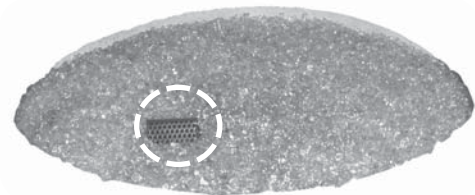

Fig. 18-2
1. Pour the glass/gems out of the bag(s), evenly covering the lava but not the screen (Fig. 18-2).